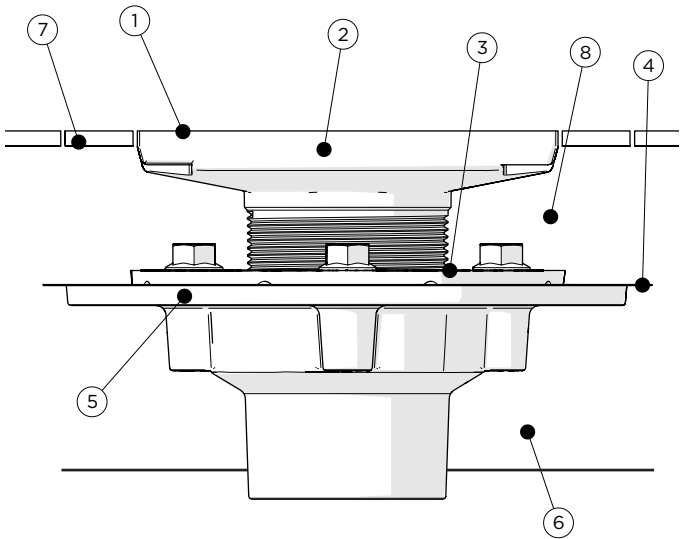

FIGURE 1
4. Waterproof membrane: clamped between clamping collar (3) and drain body (5). Rubber membrane or a copper pan can be used (see figure 1). In the case of copper shower pans, insulation must protect the copper from conducting substances with 15 pound asphalt felt or its equivalent. This includes the drain body and clamping collar.